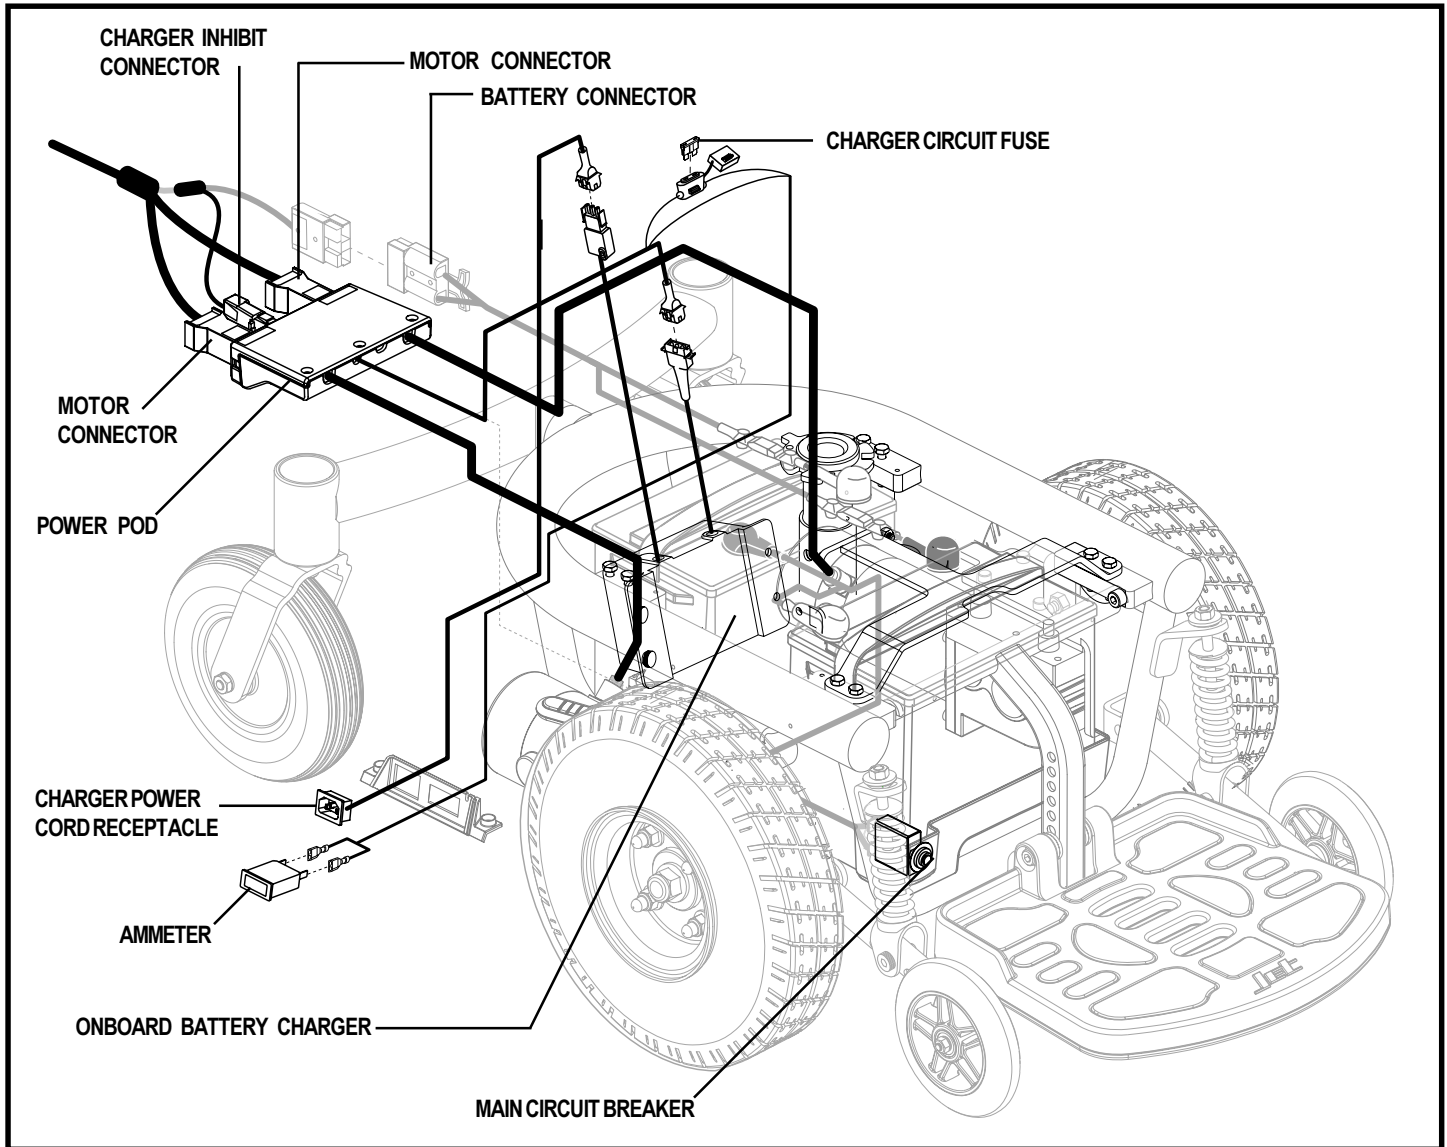

Figure 7. Jet Z11 Electrical Components
The electrical components are located within the power base. The ammeter and the charger power cord receptacle are located on the right side of the power base. The main circuit breaker is located on the front of the battery tray. The charger inhibit connector and the motor connectors are located on the power pod, inside the power base. See figure 7.
5. Plug the motor connectors and the charger inhibit connector into the power pod. See figure 7.
4. Unplug the motor connectors and the charger inhibit from the power pod. See figure 7.